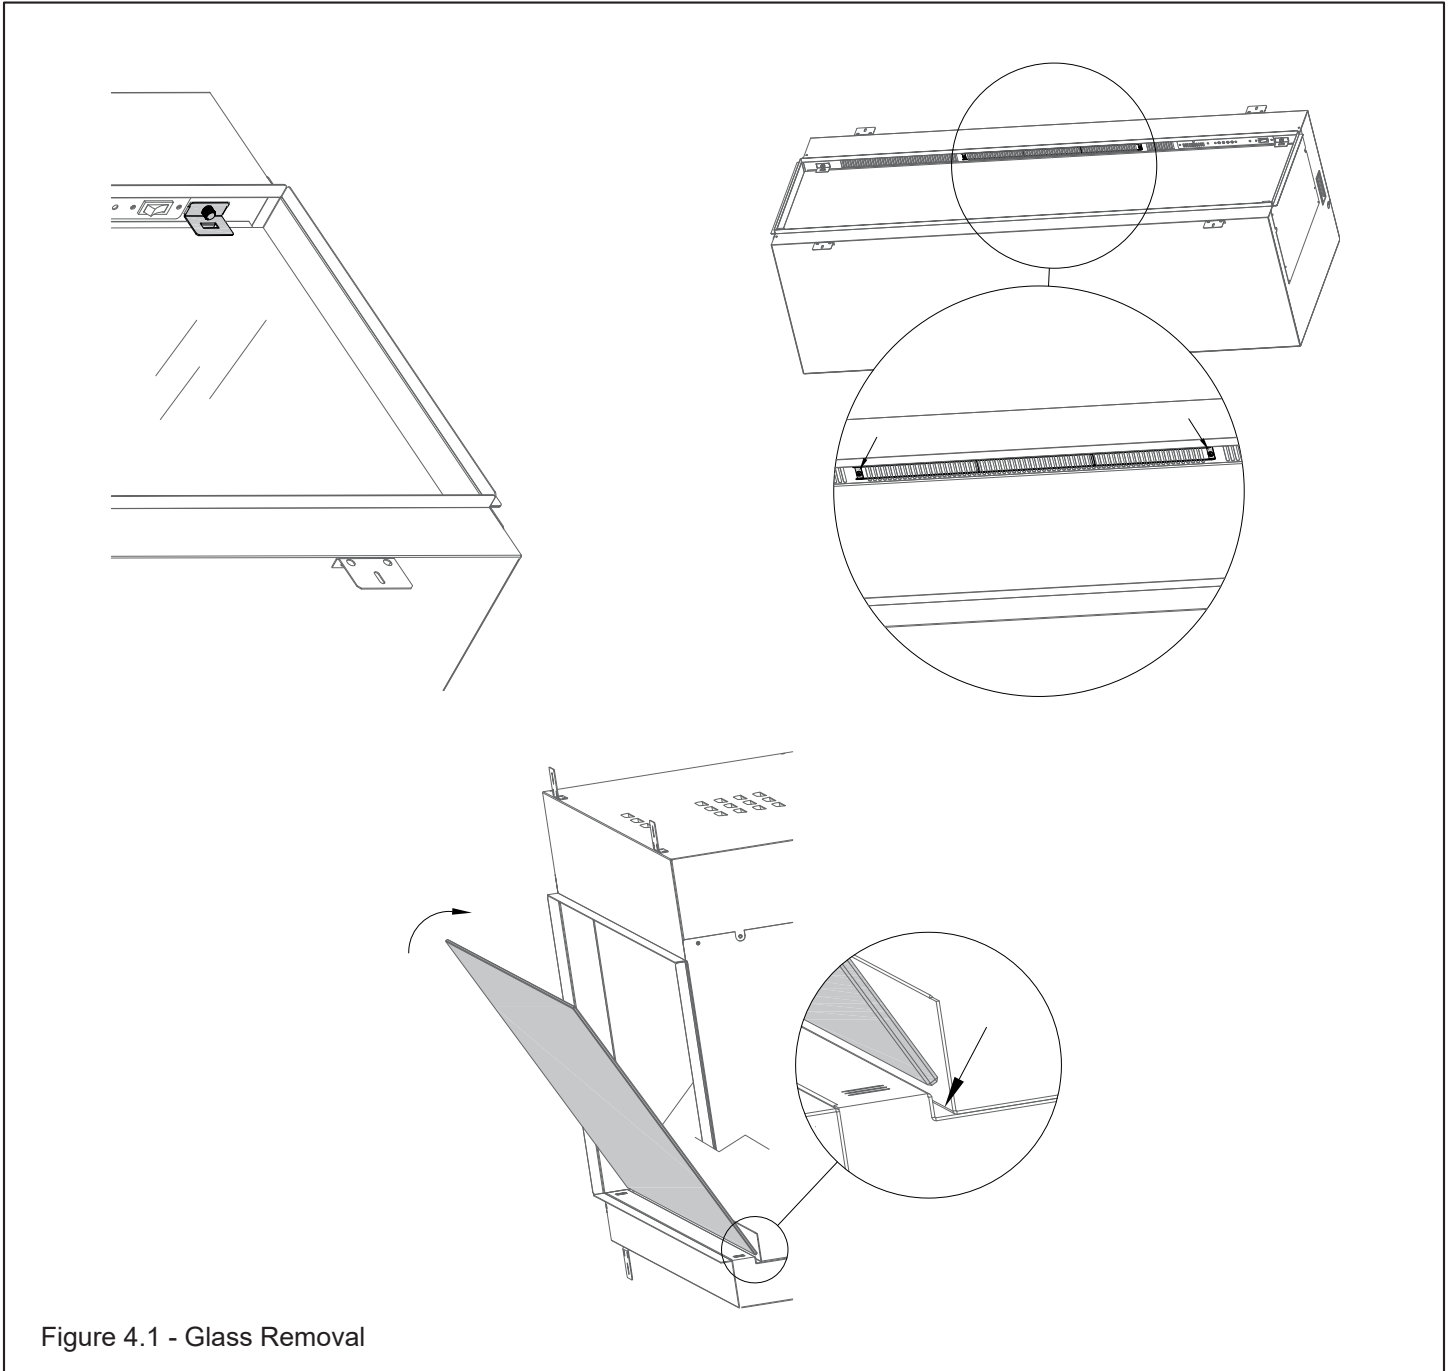

Figure 4.1 - Glass Removal
2. Use a glass suction cup and attach it to the glass front. Remove the screws and brackets from the top right and left of the glass. Remove the heater air deflector bracket. Save these components. See Figure 4.1. Tilt the glass towards you and lift up and remove the glass front.